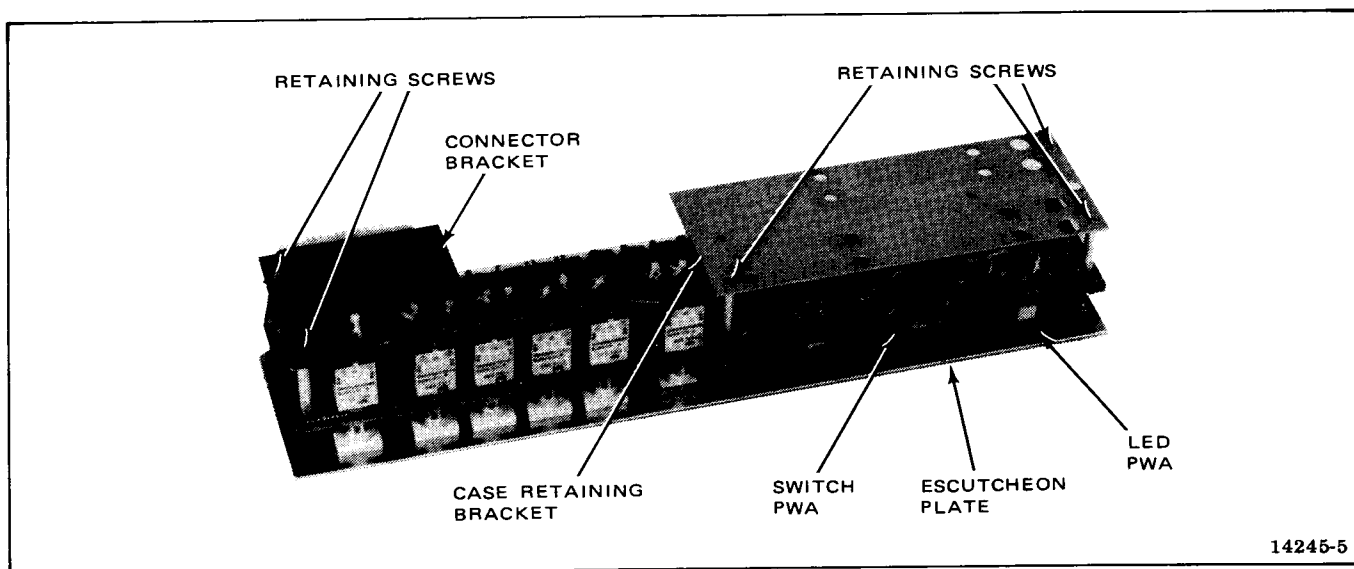

Figure 5-21. Control Box Assembly
3. Remove two countersunk 6/32 retaining screws from the connector retaining bracket and move the connector bracket aside (see Figure 5-21).
4. Remove three 6/32 countersunk retaining screws from the case retaining bracket and set the bracket aside (see Figure 5-21).
1. Position the case retaining bracket and the connector bracket in their proper positions. (See Figure 5-21 and secure using three and two 6/32 countersunk screws, respectively.)